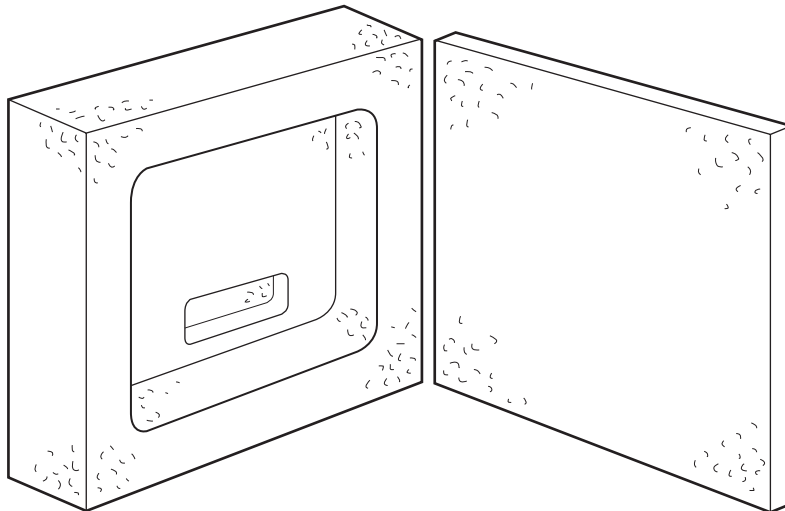

Fig. 2
- 4 Fig. 2 shows the expanded polystyrene packaging for an electrical component.